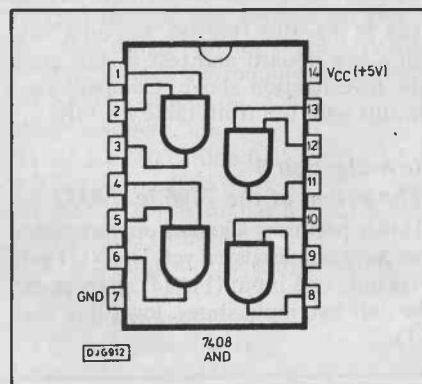

Fig. 11 The pin-out of the 7408
The standard series of ttl ics is known as the '7400 series' or sometimes as the '74 series'. The type numbers of all ics in this series begin with '74'. An example is the 7408 ic, which contains four AND gates. The integrated circuit is enclosed in a plastic package which has 14 pins, arranged in two rows on either side. This is called a 14-pin double-in-line (dil) package. (Sometimes called 'dual-in-line'. Ed.) The pins are numbered as in Fig. 11, which also shows the way the gates inside are connected to the pins.
The numbers of the pins do not appear on the ic itself, but there is either a small dot to indicate pin 1, or a semicircular cut-out at that end of the package. From Fig. 11 it can be seen that each AND gate has its own two input pins and an output pin. For example, pins 1 and 2 are the inputs (A and B) to one of the gates, and pin 3 is the output (Z) from that gate.
way as the 7408 (Fig.11). Set up a 7432 on a breadboard and test it, just as in the investigation above. Compare your results with the truth table for OR.